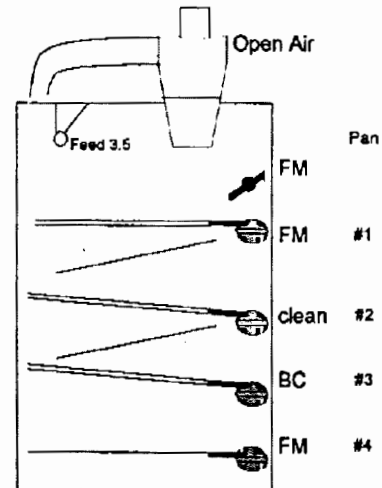

Figure 3. 3-Screen MCI-Kicker® with suggested corn screens.
Changing a MCI-Kicker® from wheat to corn requires three different screens (Figure 3). The standard setup for corn is:
- e. Hand pick FM from the corn in the clean grain pan (Figure 3), and add to BC & FM in the top pan, calculate the percentage BC & FM.